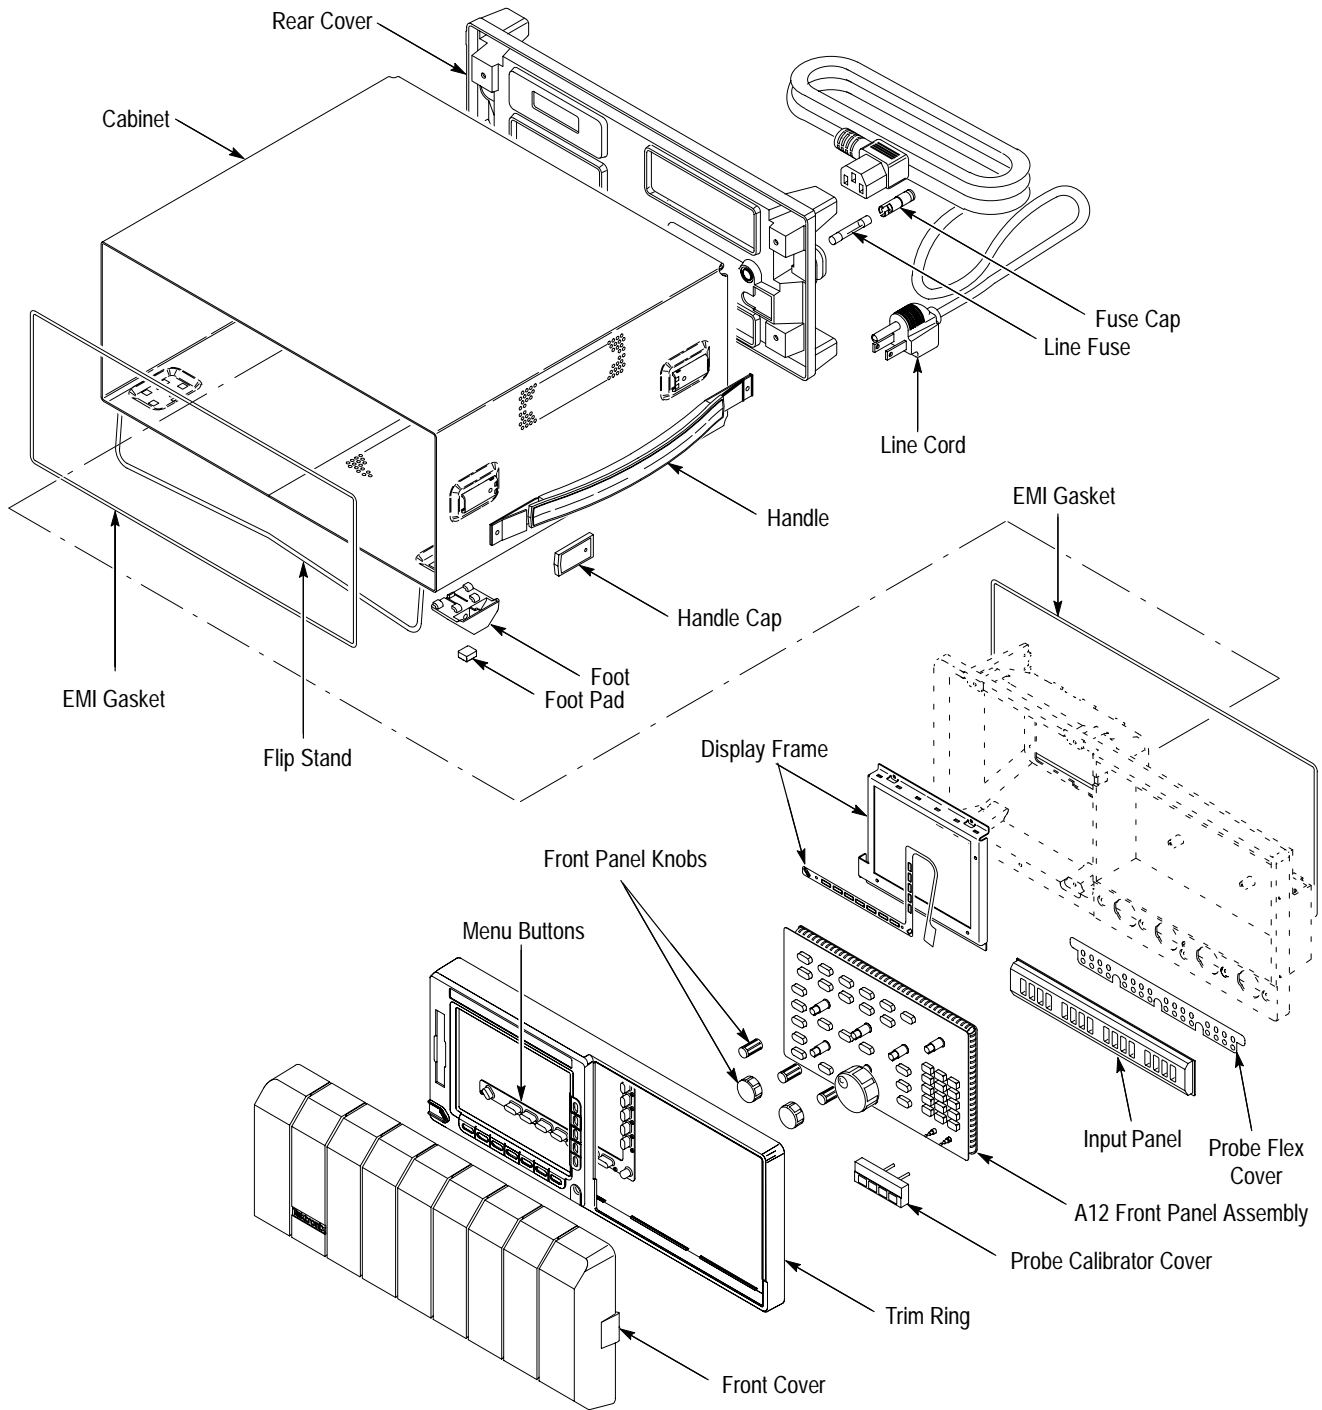

Figure 6-1: External Modules
- a. Find the module to be removed in the module locator diagrams, Figures 6-1 through 6-3.
1. *Assemble equipment and locate modules to be removed:* Have a flat-bladed screwdriver (Item 5) handy. Locate the line fuse and line cord in the locator diagram *External Modules*, Figure 6-1.
- c. Locate the rear cover and cabinet in the locator diagram *External Modules*, Figure 6-1.
- b. Locate the modules to be removed in the locator diagram *External Modules*, Figure 6-1.
1. *Assemble equipment and locate modules to be removed:* No tools are needed. Locate the modules to be removed in the locator diagram *External Modules*, Figure 6-1.